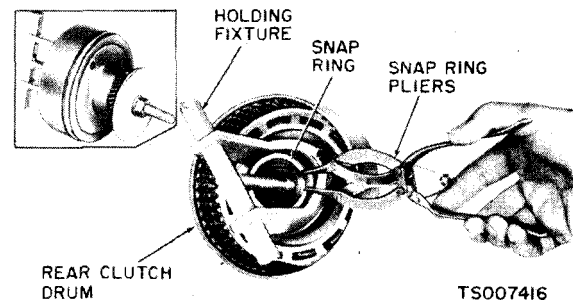

Figure 7-28. Removing Snap Ring.
(1) Remove the clutch pressure plate snap ring, and remove the pressure plate from the drum. Remove the waved cushion spring. Remove the composition and steel plates.
(2) Compress the spring with the tools shown in figure 7-28 and remove the snap ring.
(1) Install new inner and outer seal rings on the piston.
(2) Lubricate seals and install piston into cylinder, being careful not to damage seal rings.
(3) Install the clutch release spring, and position the retainer on the spring.
(4) Install the tool on the spring retainer as shown in figure 7-28. Compress the clutch spring, and install the snap ring. While compressing the spring, guide the retainer to avoid interference of the retainer with the snap ring groove. Make sure the snap ring is fully seated in the groove. When new composition clutch plates are used, soak the plates in automatic transmission fluid for 15 minutes before they are assembled.
(5) Install the external tabbed waved cushion spring. Then, install the composition and the steel clutch plates alternately, starting with a steel plate.
(6) Install the clutch pressure plate with the bearing surface down. Then install the clutch pressure plate snap ring. Make sure the snap ring is fully seated in the groove.
(7) Check the free pack clearance between the pressure plate and the first internal plate with a feeler gage. The clearance should be 0.030-0.055 inch. If the clearance is not within specifications, selective snap rings are available in the following thicknesses: 0.060-0.064, 0.074-0.078, 0.088-0.092 and 0.102-0.106 inch. Insert the correct size snap ring and recheck the clearance.
(8) Install the thrust washer on the primary sun gear shaft. Be sure the thrust washer is installed with the tabs of the washer away from the sun gear thrust face. Lubricate all parts with automatic transmission fluid or petroleum jelly. Install the two center seal rings.
(9) Install the rear clutch on the primary sun gear shaft. Be sure all of the needles are in the hub